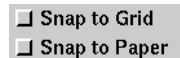

Figure 2-9. Snap mode buttons.
2.2.2.13. Snap Modes. Snap modes, as shown in Figure 2-9, allow you to place objects precisely by locking them to the nearest reference point, either on the axis grid or on the workspace paper. There are two: